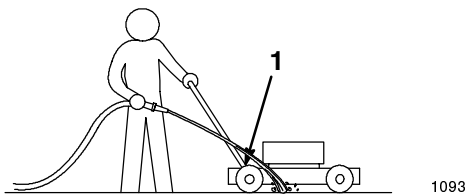

Figure 17
3. Hold the running garden hose at handle level and direct the water to flow on the ground just in front of the right rear tire (Fig. 17).